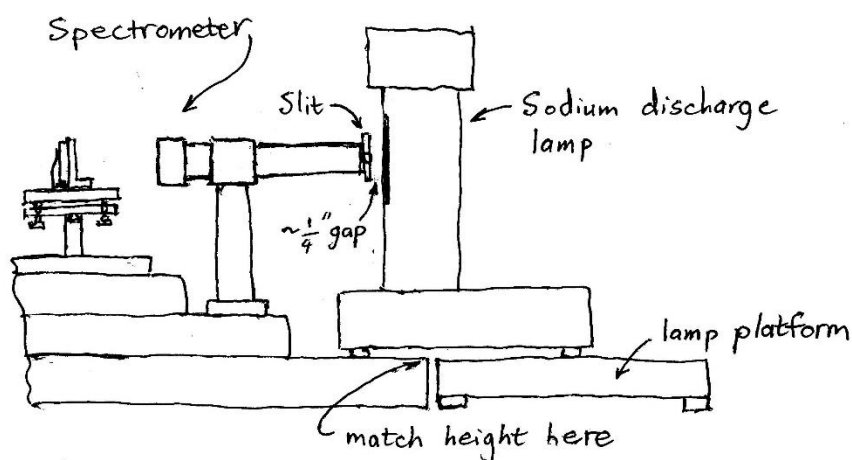

Figure 11.7. Correct placement of the sodium discharge lamp and lamp platform.
3) Bring the spectrometer back into the lab. Then, place the lamp platform next to your spectrometer platform. The different models of spectrometers have different height platforms, and we have made different height lamp platforms to match. **Please make sure that your lamp platform matches the height of your spectrometer platform, as shown in Figure 11.7.**